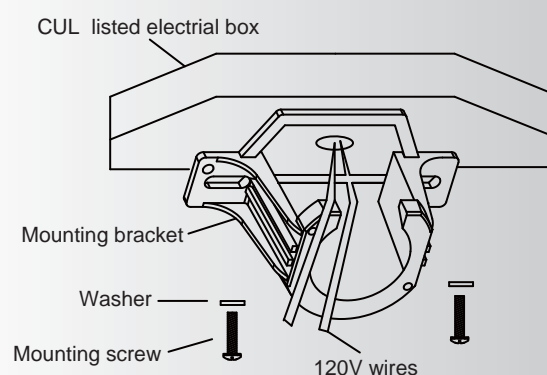

Fig. 6
Step 2. Secure the hanger bracket to the ceiling outlet box using screws and washers provided. (Fig. 6)